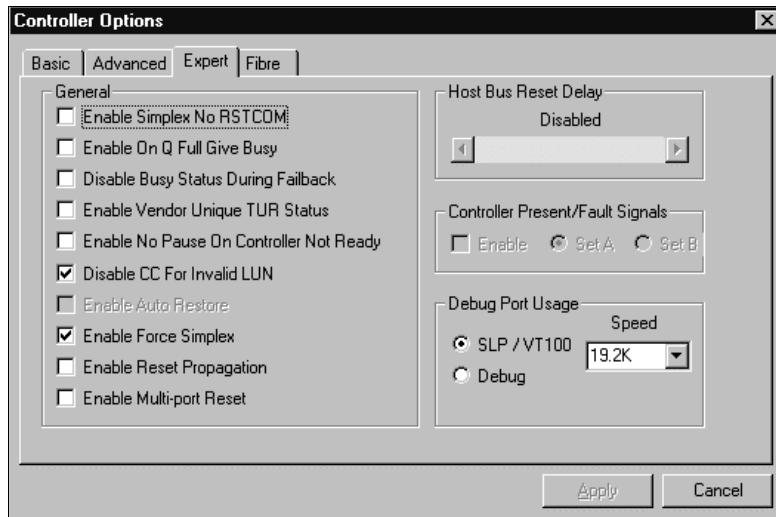

Figure 6: SAM Expert Controller Options Dialog Box (simplex)
► Open the *Expert* dialog box and set the parameters as shown in figure 6.